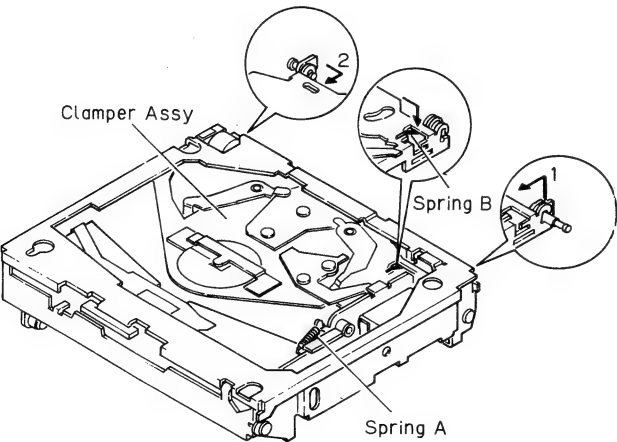

Fig. 7
- 1. Remove the spring B as indicated by the arrow. (Fig.7)
- 2. Remove the spring A. (Fig. 7)
- 3. Remove the engagement as indicated by the arrows 1 and 2, and then remove the clamber assy. (Fig. 7)